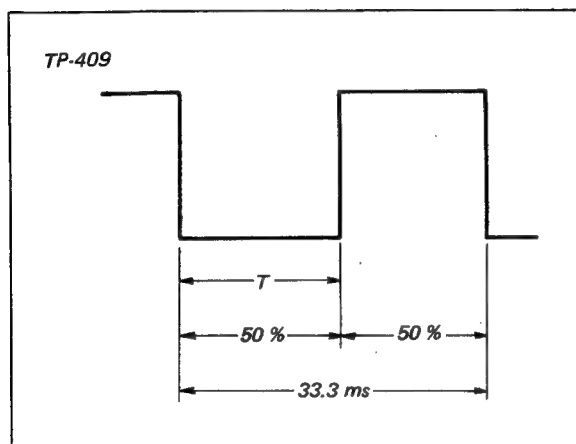

Fig. 6-3. 30-Hz pulse adjustment
3. Adjust R441 so that the interval "T" in Fig. 6-3 is 16.7 ± 0.5 msec, i.e., a duty cycle of 50%.